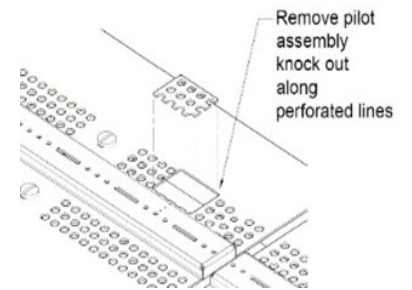

FIGURE 48
- 10) Before replacing the removed burner top from **step 4**, locate the perforated rectangular section in the pan. Gently remove this section along the perforations using a screwdriver or pliers. **(Figure 48)**